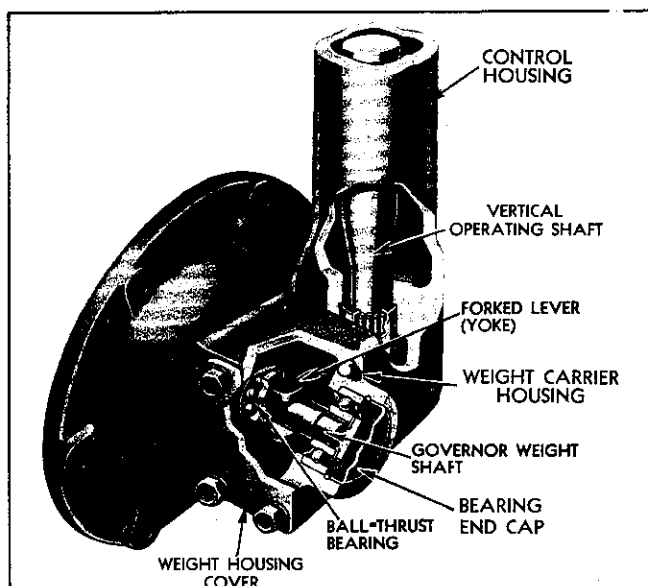

Fig. 10—Correct Relative Positions of Governor Yoke and Thrust Bearing—Mechanical Governor.
**Attach Cylinder Head to Cylinder Block (Heat Exchanger and Mechanical Governor)**—Items 1 to 12, inclusive, are the same as items 1 to 12, inclusive, for "Attach Cylinder Head to Cylinder Block (Radiator and Hydraulic Governor)", Page 5.
13. Be sure paper gasket is in place over the two dowel pins, then locate governor control housing assembly in place on governor weight carrier housing, being sure that ball thrust bearing and thrust washer are between the yoke and the sliding sleeve (riser) on governor shaft. (See Fig. 10.)